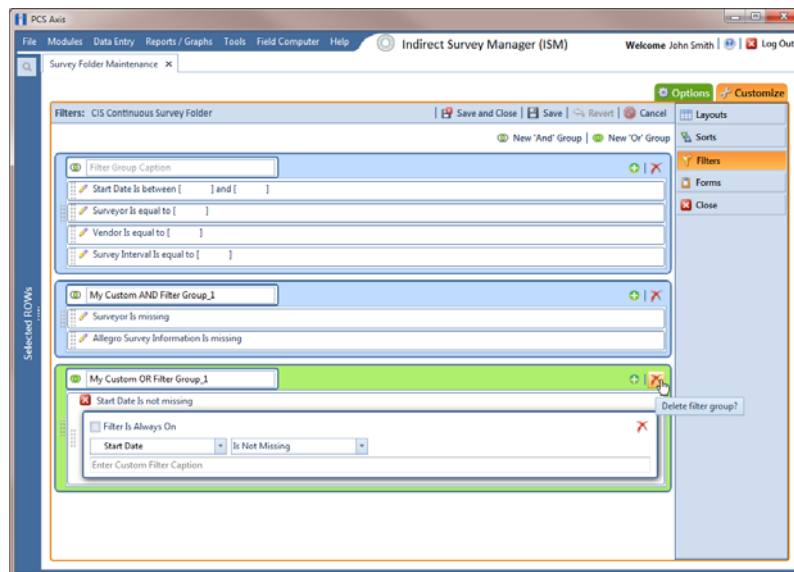

Figure 5-22. Filters
- 8 To delete a filter in a filter group, click the filter's  delete button (Figure 5-22). Then click  **OK** when the *Delete* message displays.
- 12 Click the  close button to close the filter's property settings group box (Figure 5-22, page 158).